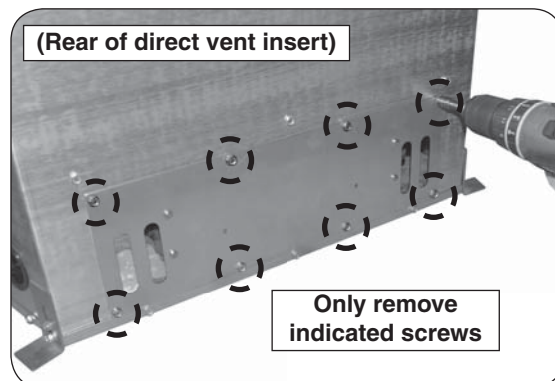

Fig. 1-1 Unfasten rear panel
1. Remove the 8 securing hex screws and the rear panel (fan assembly attached) using a $5/16$ " nut driver or equivalent. See Fig. 1-1.